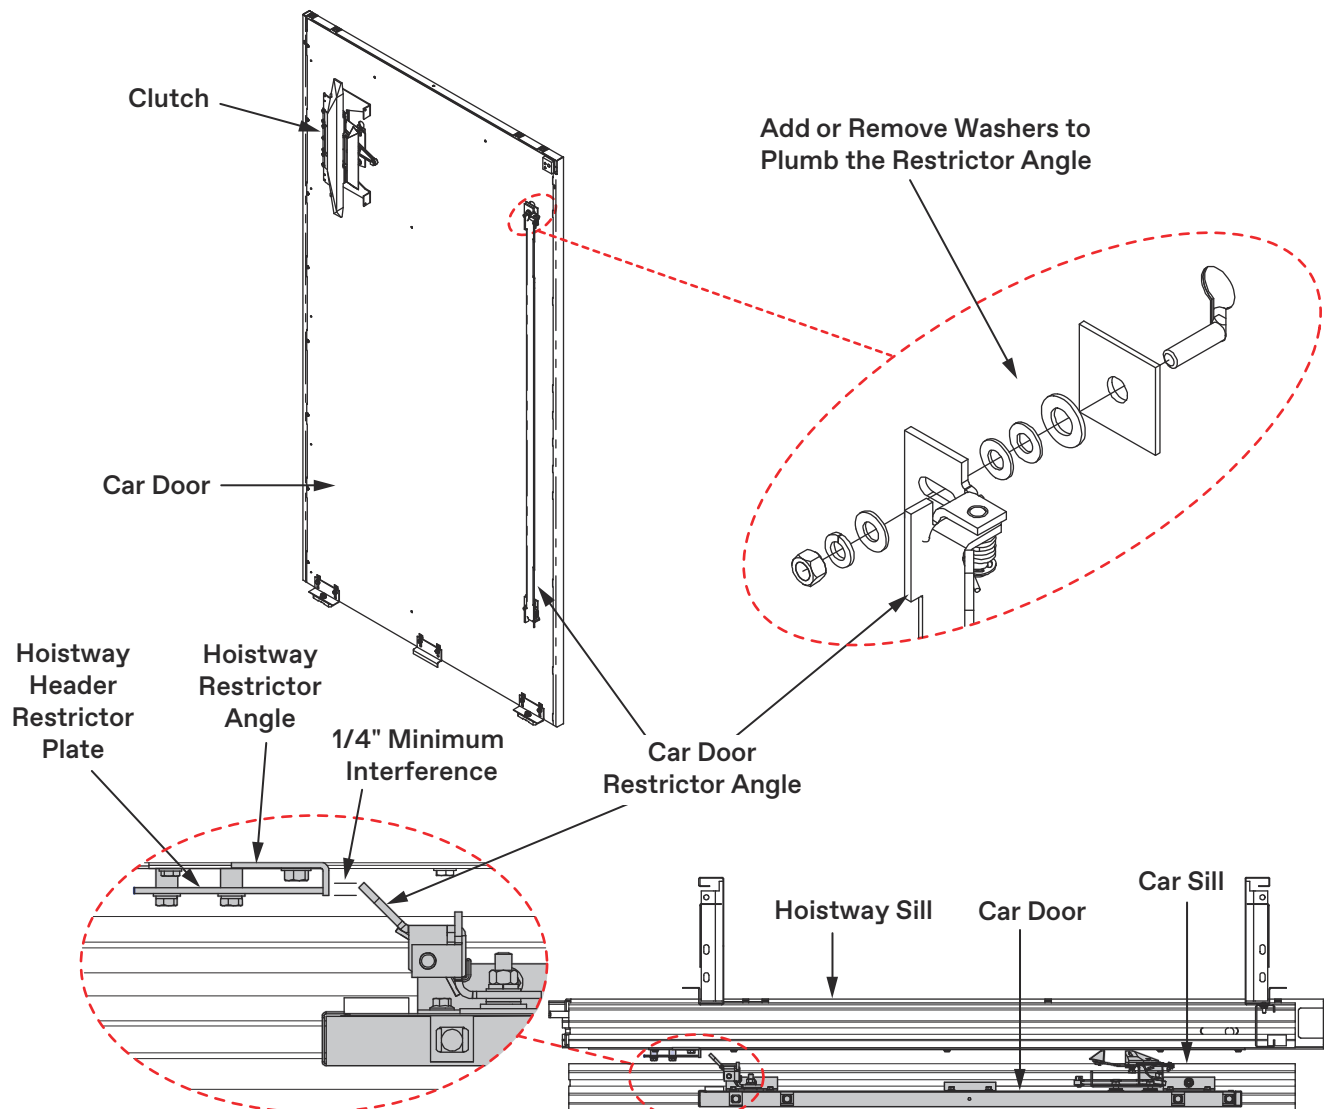

Figure 35 - Install the Car Door Restrictor Angle
2. Use washers to adjust the car door restrictor so that it is plumb and a $\frac{1}{4}$ " minimum interference when the car door restrictor engages the hoistway restrictor angle. See Figure 35.